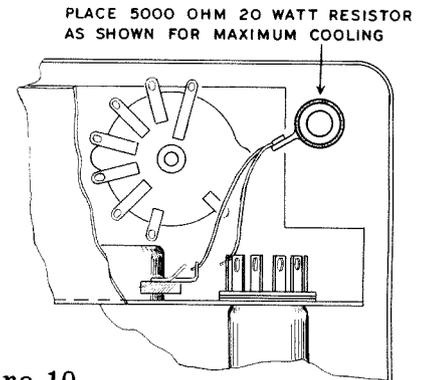

Figure 10
- (✓) Connect a wire between a second twisted mounting prong (S) on the filter condenser and through lug 2 (NS), through lug 3 (NS) on the 600 Ω oscillator control to lug 1 (NS) on the 10 K Ω meter control.
- (✓) Connect a wire between lug 1 (S) on the candelabra socket and lug 1 (NS) on the 600 Ω oscillator control.
- (✓) Connect a 330 Ω resistor between lug 1 (S) (2) on the oscillator control, through pin 7 (S) to pin 2 (NS) on the 6AU6 socket.
- (✓) Connect a wire between pin 5 (S) on the 6AU6 socket and pin 9 (S) on the 6CL6 socket.
- (✓) Connect a 120 K Ω resistor between pin 6 (NS) (use sleeving over this lead) on the 6AU6 socket and through pin 8 (S) to pin 3 (NS) on the 6CL6 socket.
- (✓) Connect a 47 Ω resistor between pin 1 (S) and pin 7 (NS) on the 6CL6 socket.
- (✓) Connect a 47 K Ω 1 watt resistor between pin 2 (S) and through pin 6 (S) to pin 3 (S) (3) on the 6CL6 socket.
- (✓) Connect a 16 μ fd 150 volt electrolytic condenser with the positive (+) lead to pin 6 (S) (2) and the negative (-) lead to pin 2 (S) (2) on the 6AU6 socket. Use sleeving on both leads. Place condenser close to chassis.
- (✓) Install the line cord. Place it through the grommet in the rear edge of the chassis. Tie a knot for strain relief. Connect one lead to lug 1 (S) (2) and the other lead to lug 2 (S) (2) on the terminal strip.
- (✓) Connect a 20 μ fd 350 volt electrolytic condenser with the negative (-) lead to lug 2 (NS) on the candelabra socket and the positive lead (+) to pin 7 (NS) on the 6CL6 socket. Use sleeving on these leads.
- (✓) Connect a 5000 Ω 20 watt resistor between pin 7 (S) (3) on the 6CL6 socket and lug 2 (S) (2) on the oscillator control. Leave the leads fairly long and dress as shown in Figure 10.
- (✓) Connect a 7 1/2" wire between lug 2 (NS) on the candelabra socket and lug 3 (S) on the output control.
- (✓) Connect a 3 1/2" wire between lug 3 (S) (2) on the oscillator control and lug 1 (S) on the output control.
- (✓) Connect a wire between lug 5 (S) (3) on the 5-lug terminal strip and the nearest twisted mounting prong (NS) on the filter condenser.
- (✓) Connect an 8 1/2" wire between lug 3 (S) (3) on the 5-lug terminal strip and lug 2 (S) on the meter control.